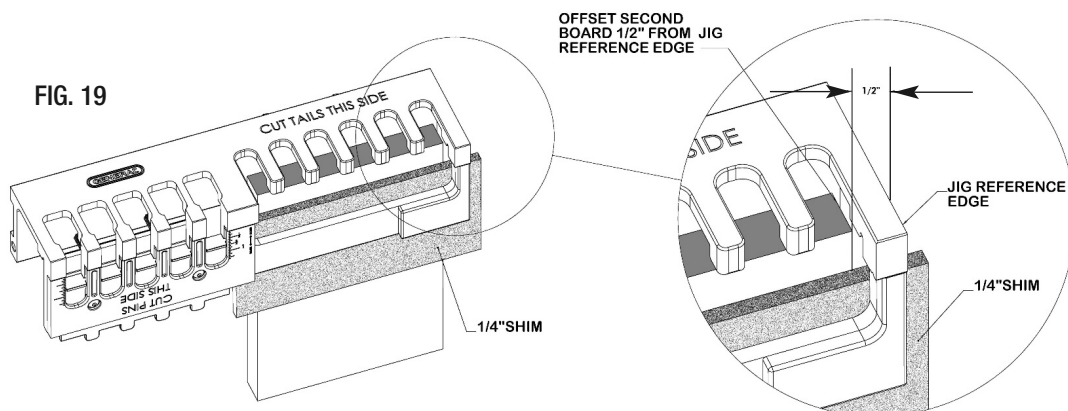

FIG. 19
5. Insert the second board into the jig along with the same shim and offset one edge of the board 1/2 in. in from the outside edge of the jig. FIG. 19. This spacing will offset the "TAILS" of the second board so that they align with the slots cut into the first board.